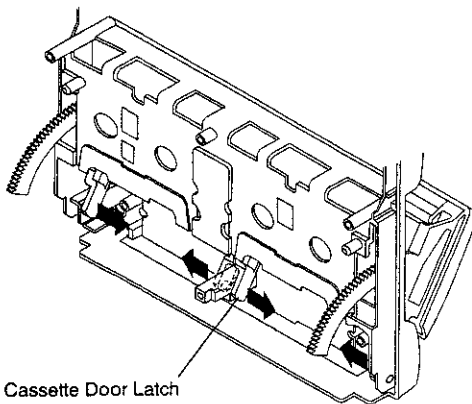

Fig. 12
(1) Remove the 2 eject springs.
(2) Remove 2 screws ㉒ and then remove the eject bracket.
12. **Removal of Cassette Door (Fig. 12)**